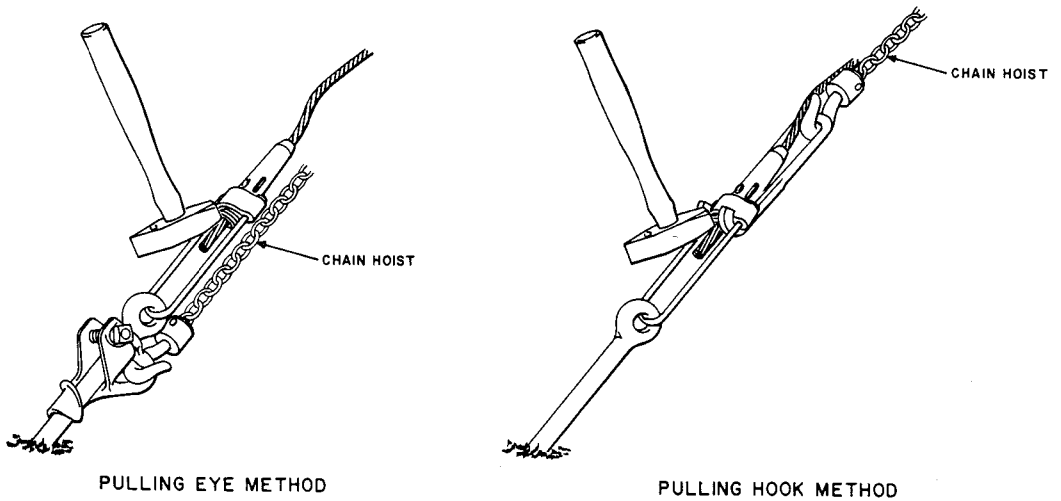

Fig. 29—Unseating Gripping Jaws of Strandvise
4.10 To remove slack from guy, strike several sharp blows to collar of cartridge or end of pulling hook to unseat gripping jaws of Strandvise as shown in Fig. 29. Then push strand through cartridge and release tension in hoist to reset jaws. Repeat operation if necessary.